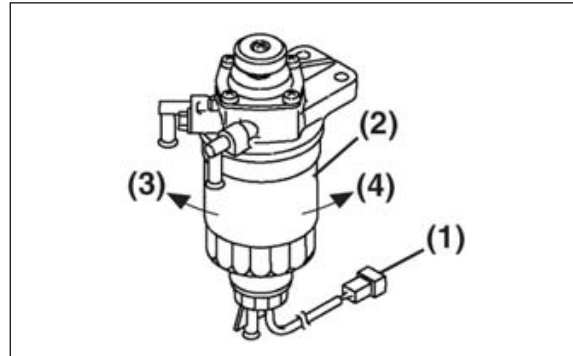

Figure 5-14
3. Disconnect the fuel filter sensor connector (**Figure 5-14, (1)**).
6. Remove the fuel filter (**Figure 5-14, (2)**) by turning it to the left (**Figure 5-14, (3)**). Wipe up all spilled fuel.
17. Install the new fuel filter (**Figure 5-14, (2)**) by turning it to the right (**Figure 5-14, (4)**) until it contacts the mounting surface. Tighten one additional turn.
19. Reconnect the fuel filter sensor connector (**Figure 5-14, (1)**).